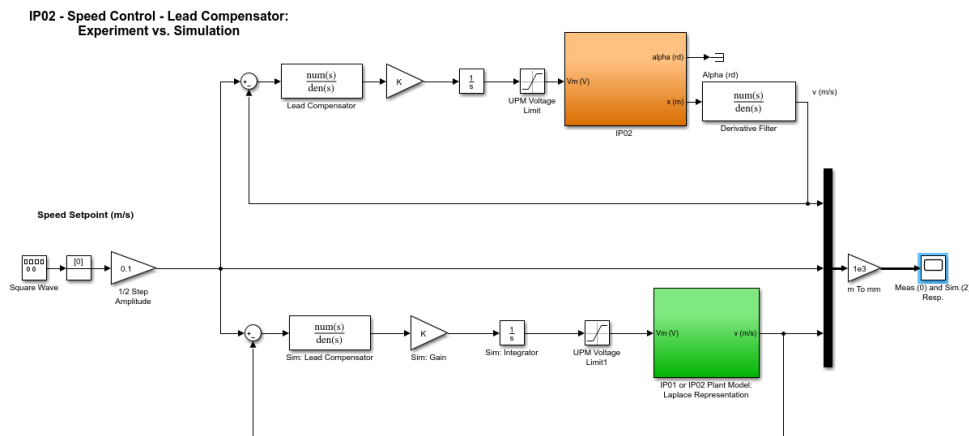

Fig. 9 – Simulink diagram used for the real-time implementation of the phase-lead based speed control system
Step 1. Open the Simulink model file *q\_speed\_lead\_ip02.mdl*. Ask your Lab Assistant if in doubt. You should obtain a diagram similar to the one shown in Figure 9. The model has 2 parallel and independent control loops: one runs a pure simulation of the lead-based controller connected to the same plant model as the one developed in Assignment #2 of the preliminary work section. The other loop directly interfaces with your hardware and runs your actual IP02 servo plant. To familiarize yourself with the diagram, it is suggested that you open both subsystems to get a better idea of their composing blocks as well as taking note of the I/O connections.